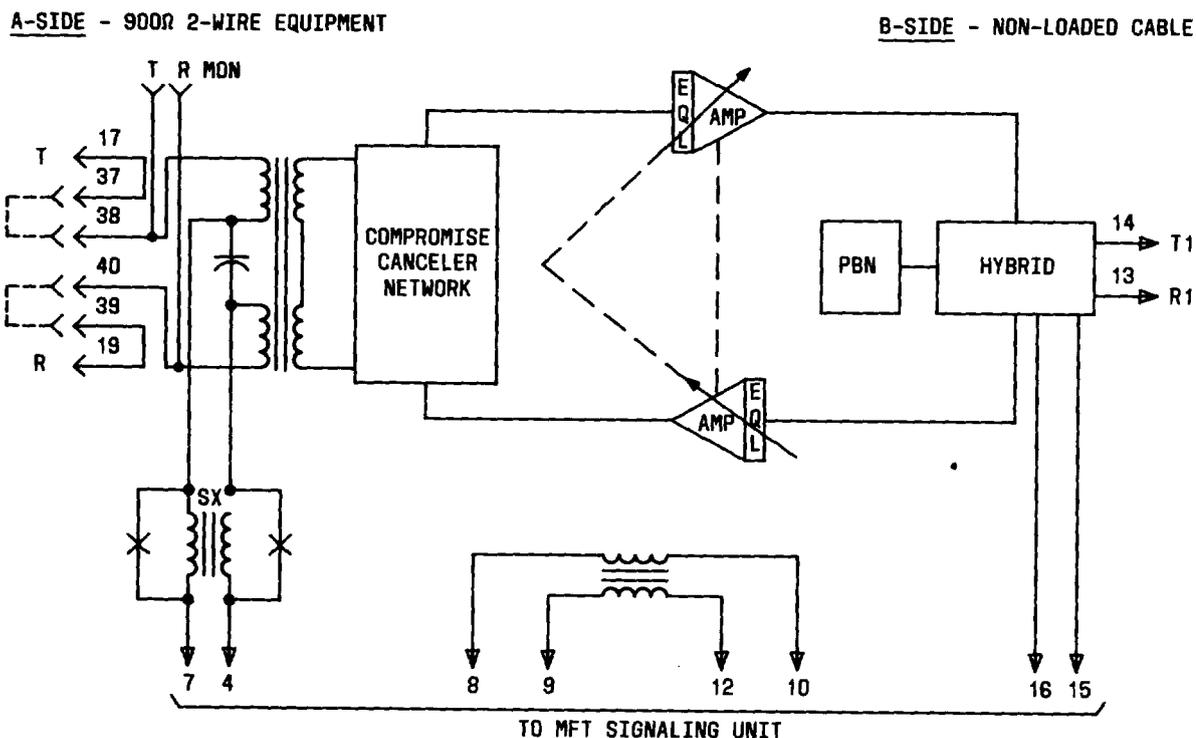

Fig. 7—Block Diagram, J99343PB, L3
3.01 The J99343PB,L3 is shown in Fig. 6. It provides gain and equalization on 2-wire circuits between terminal equipment and nonloaded facilities. Figure 7 shows a block diagram of this unit.